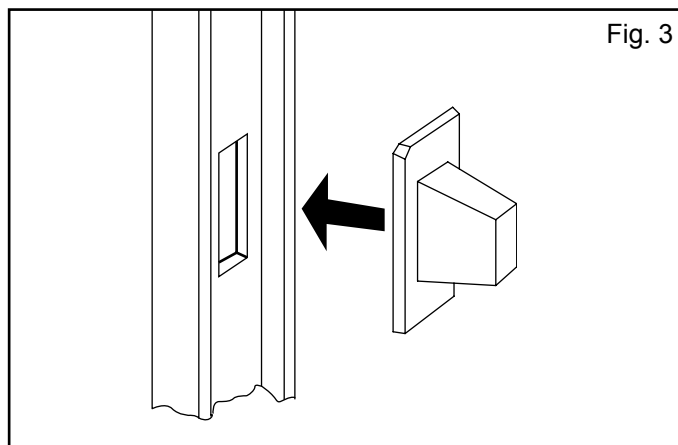

Fig. 3
- b. Install locking bar covers if there are locking bar holes in the guides. (**Fig. 3**)